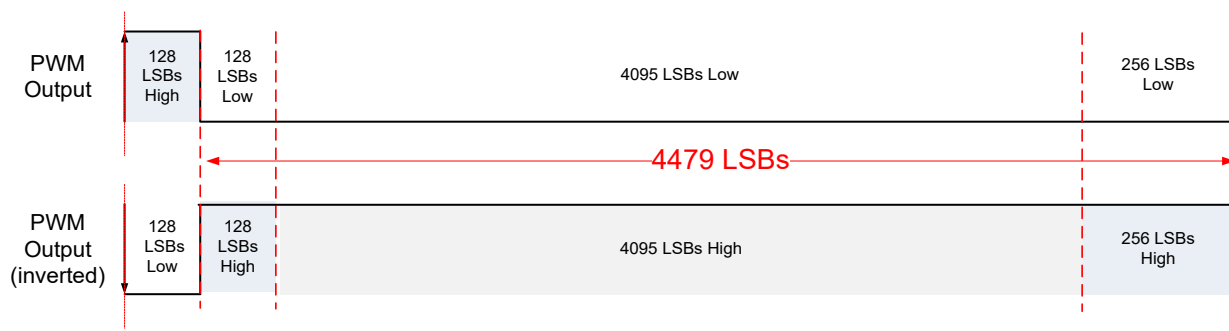
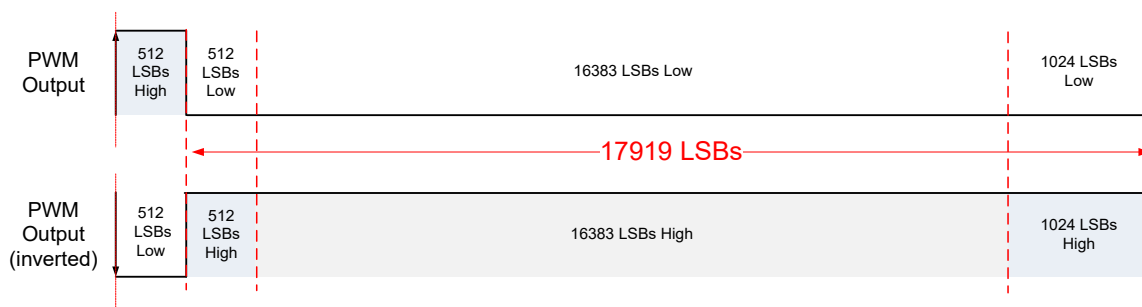

Figure 18. 12-bit PWM Signal in Diagnostics Low Mode
Figure 20. 14-bit PWM Signal in Diagnostics Low Mode
- Diagnostic low mode, see Figure 18 and Figure 20;